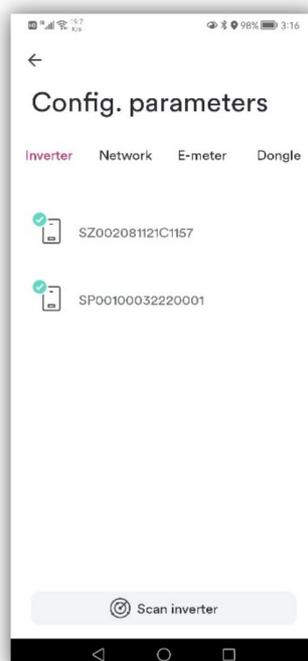

Figure 10 Inverter list
- 1.As shown in Figure 10, This page provides a list of monitored inverters. If there are multiple inverters to be monitored, click "Scan inverter" and wait for 5 minutes.